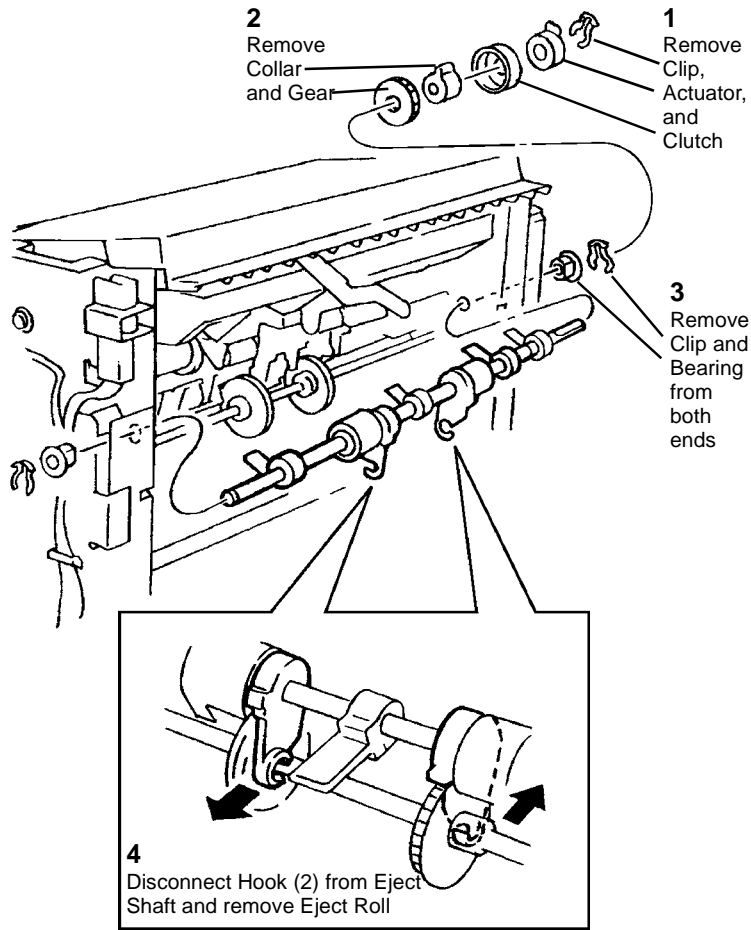

Figure 6 Removing Eject Roll
7. Remove Eject Roll (Figure 6).